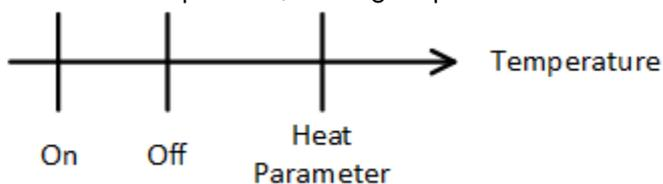

Figure 40: On Temperature below the Target
- In Figure 40, the On Temperature is below the target temperature. Heaters remain off until the temperature falls to the Heat Parameter. When the temperature then rises to the Heat Temperature, heating stops.